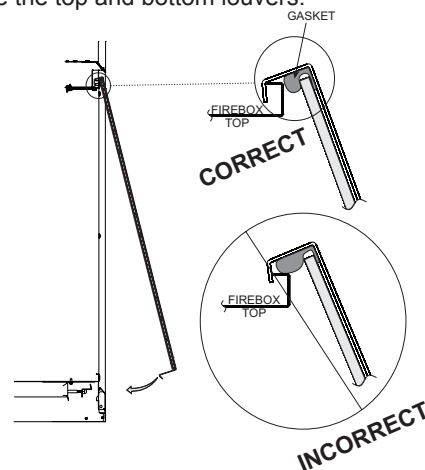

Figure 99
1. When installing the Glass Door assembly, make sure that the door top flange is hooked over the firebox top flange as illustrated in the "Correct" view in **Figure 99**.
Important: Do not allow the gasket across the top of the door to roll up on top of the firebox flange as shown in "Incorrect" view in Figure 99.